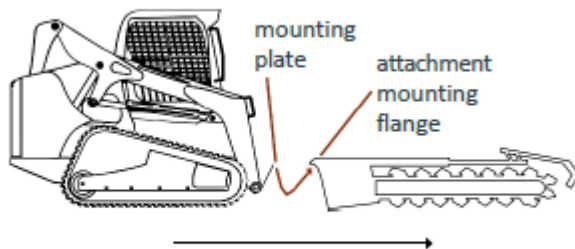

Figure 4.2a: Skid Steer Mounting Plate to Attachment Mounting Flange
2. Drive forward and place top of skid steer mounting plate under the attachment mounting flange. See Figure 4.2a below.